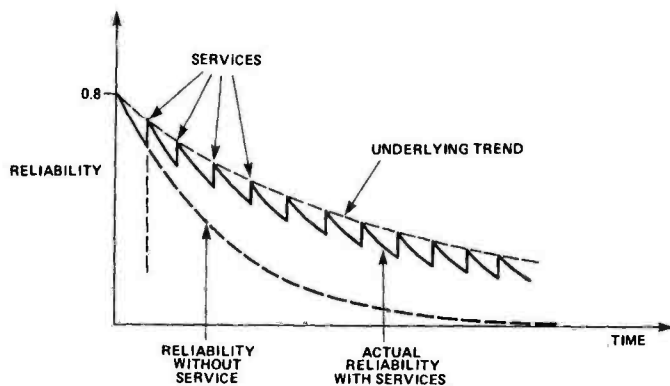

Fig. 1 Reliability declines with servicing.
7. It must be possible to test the device without degrading it too much. One of the ironies with large-scale systems is that testing them actually makes them less reliable in the long run, see Fig. 1.